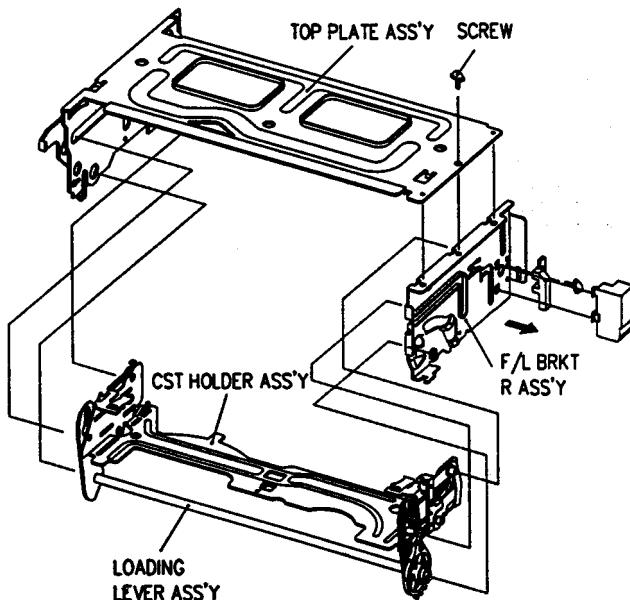

Fig. 13- Front loading mechanism disassembly
(Fig. 13~17)
3. Remove the cassette holder assembly (Fig. 13)
4. Remove the prism cap and remove one (1) screw hold-